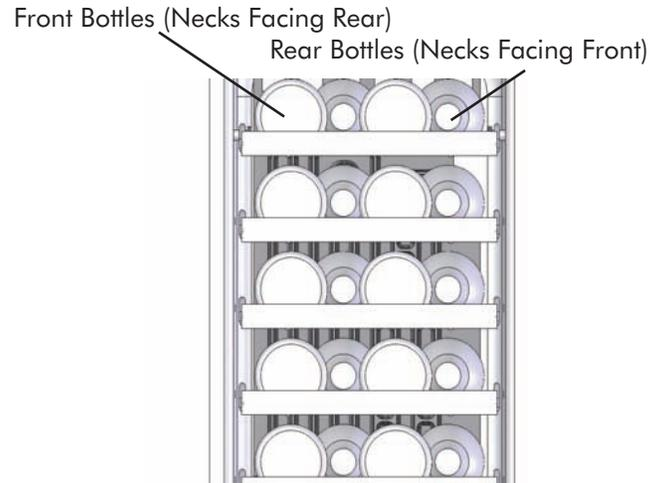

Figure 4
The five (5) pull-out shelves each hold four (4) bottles. See Figure 4 for typical wine bottle spacing. Tall bottles should not be loaded on the bottom rack because they may prevent the door from closing. Also, there is a fixed, wooden, bottle cradle in the bottom, step section of the cabinet. Three (3) bottles may be stored there.